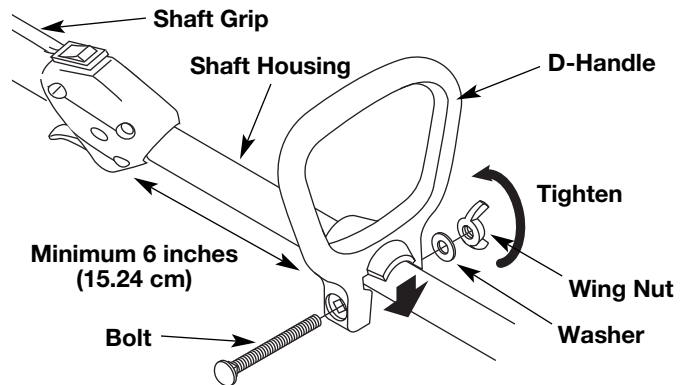

Fig. 4
1. Push the D-handle down onto the shaft housing (Fig. 4). The squared bolt hole in the handle is to the right.